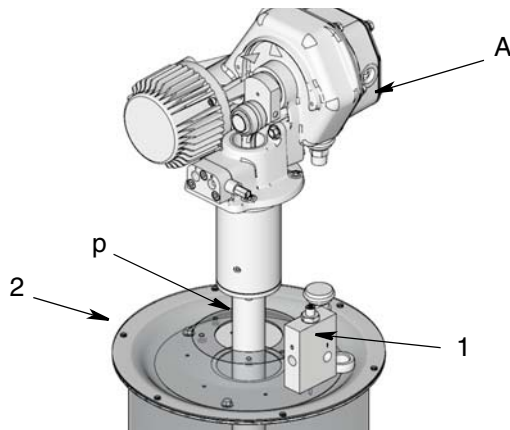

FIG. 10
- Install pump down-tube (p) through opening in the center of the cover (e) and hole in the center of the diaphragm (2) as shown in FIG. 10.